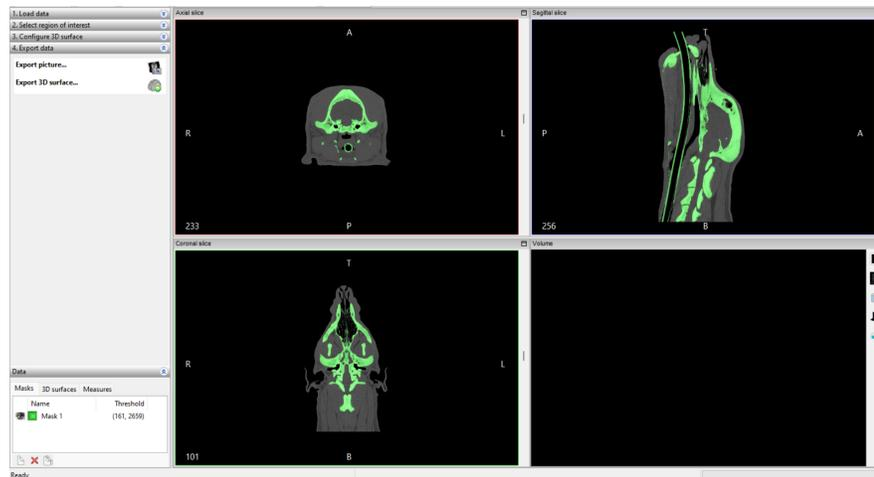

Figure 1: Invasales combines all CT scans into one and then able export as a 3D surface to be put into meshmixer to be edited.
- Uploaded the DICOM file into Invasales and select option to delete one slide per 2 slides to produce figure 1.